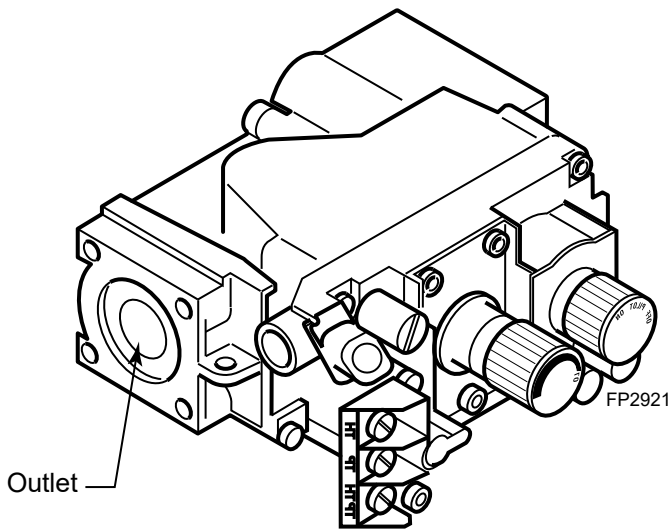

Fig. 2 SIT Valve
4. Install gas valve to bracket using screws provided. **IMPORTANT: Make sure the gas valve is oriented properly. The valve outlet is on the same side as the terminal block.** Figure 2